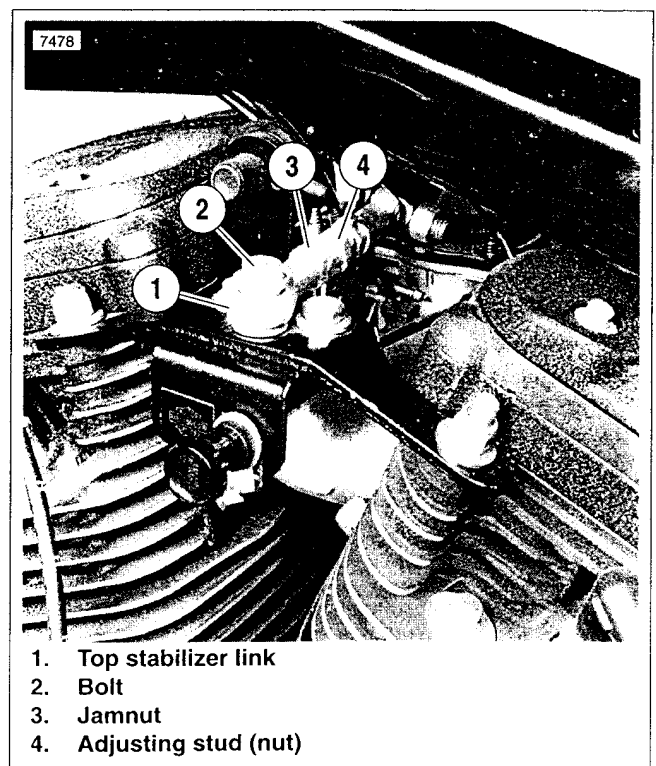

Figure 2-64. Top Stabilizer
7. See Figure 2-64. Remove the bolt (2) which attaches the top stabilizer link (1) to the engine mounting bracket.